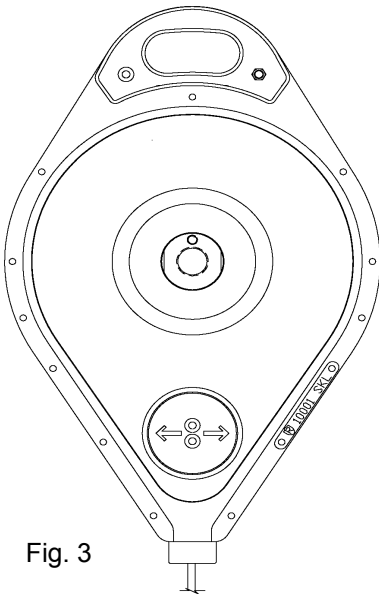

Fig. 3
9. While positioned 2 feet from the closest leading edge, have the worker standing by the unit turn the locking knob 90 degrees. Locking knob should retract into housing. Arrows on Locking Knob will be perpendicular to cable (See Fig. 3).